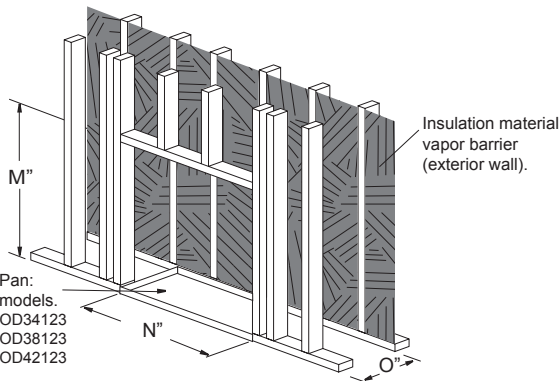

Figure 2a. Framing dimensions.
** The **H-Series VO** models have an **Optional** Stainless Steel Drain Pan available. Note, If the Drain Pan is ordered with the fireplace it must be installed at the time of construction. The Pan cannot be added at a later date. See **Figure 2a** above.
If the **Optional** drain pan is not used during construction; (as shown in **Figure 2a** above) ensure any water build-up can escape to the exterior of the finished enclosure.